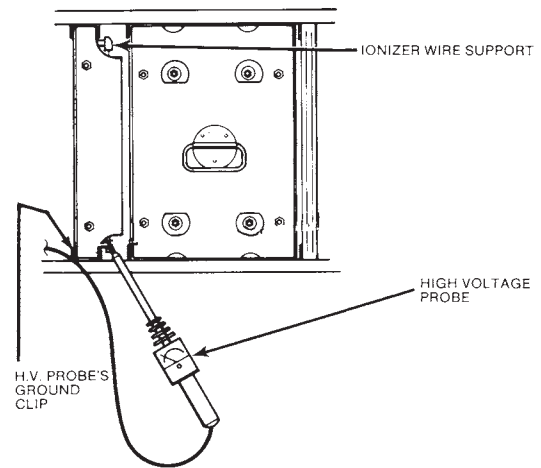

FIGURE 11
- Probe the ionizer at the ionizer wire support as shown in Figure 11. If ionizer voltage falls below 8 KV, the SMOKEETER is not operating efficiently.